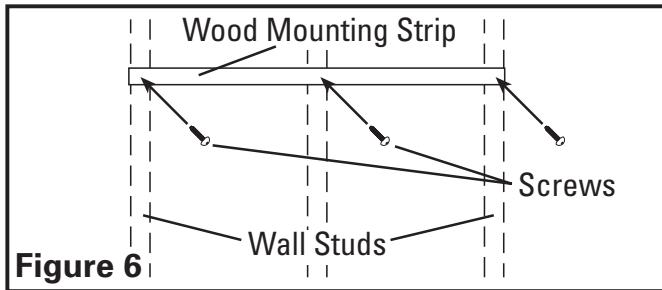

Figure 6
2. Secure the included wood strip in place using the provided 2" mounting screws making sure the screws are fastening into the wall studs (Figure 6).